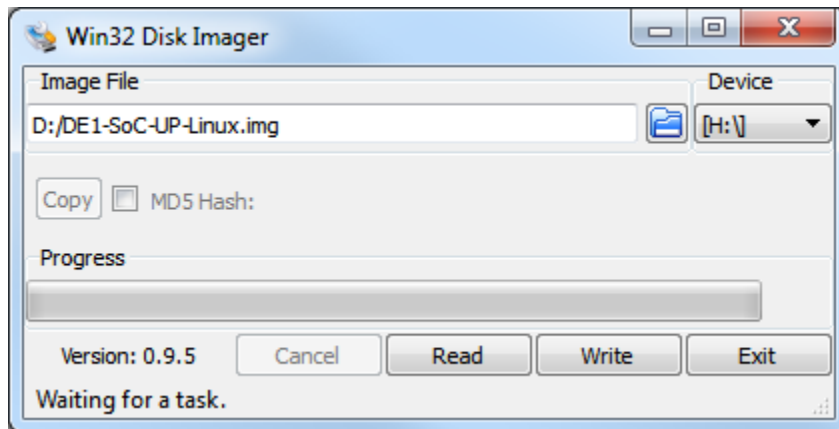

Figure 1. The Win32 Disk Imager program.
2. Select the drive letter corresponding to the microSD card under `Device`, as indicated in Figure 1.
3. Select the *DE1-Soc-UP-Linux.img* image under Image File, as shown in Figure 1. This image file can be found on the Intel FPGA University Program webpage alongside this tutorial.